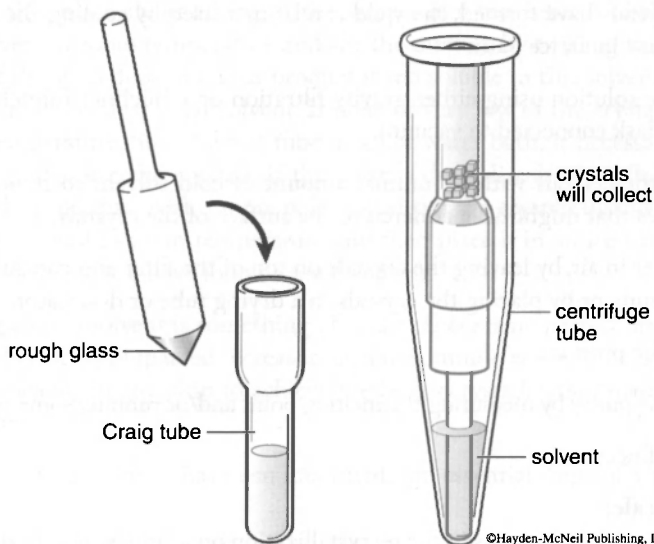

Figure 3-2. *Craig tube.*
- For 10–100 mg microscale, Craig tubes are sometimes used. As shown in Figure 3-2, a Craig tube looks like a test tube, with a narrowing on top. A slightly rough glass piece fits into the opening on top. To recrystallize a compound, the solution is placed in the Craig tube and concentrated, if necessary. Upon cooling, the glass "stopper" piece is inserted in the top of the tube and the crystals form on the bottom of the tube. The Craig tube is then inverted in a centrifuge tube and the whole assembly is placed in a centrifuge, with an equal weight on the opposite side. Centrifugation will force the solvent out of the Craig tube into the centrifuge tube, while the crystals will remain in the Craig tube.